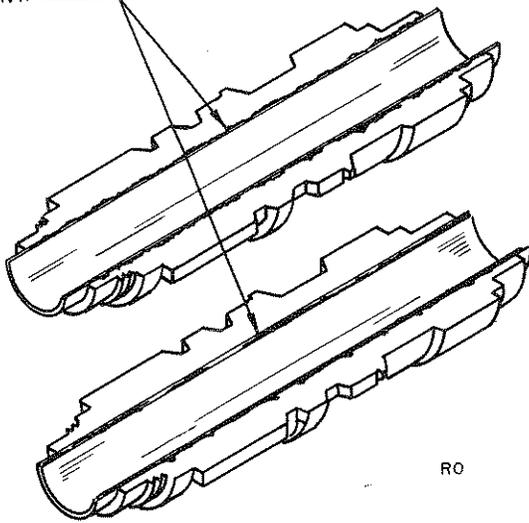

Figure 8. Removal of Existing Silver Paint
- (3) Remove screws and separate halves.
- (4) Refer to Figure 8. Remove silver paint in card recess with acetone. This operation must be thorough. Any old paint left in recess may cause bowing of card. Note: Only one-half of center section is recessed for receiving attenuator card.